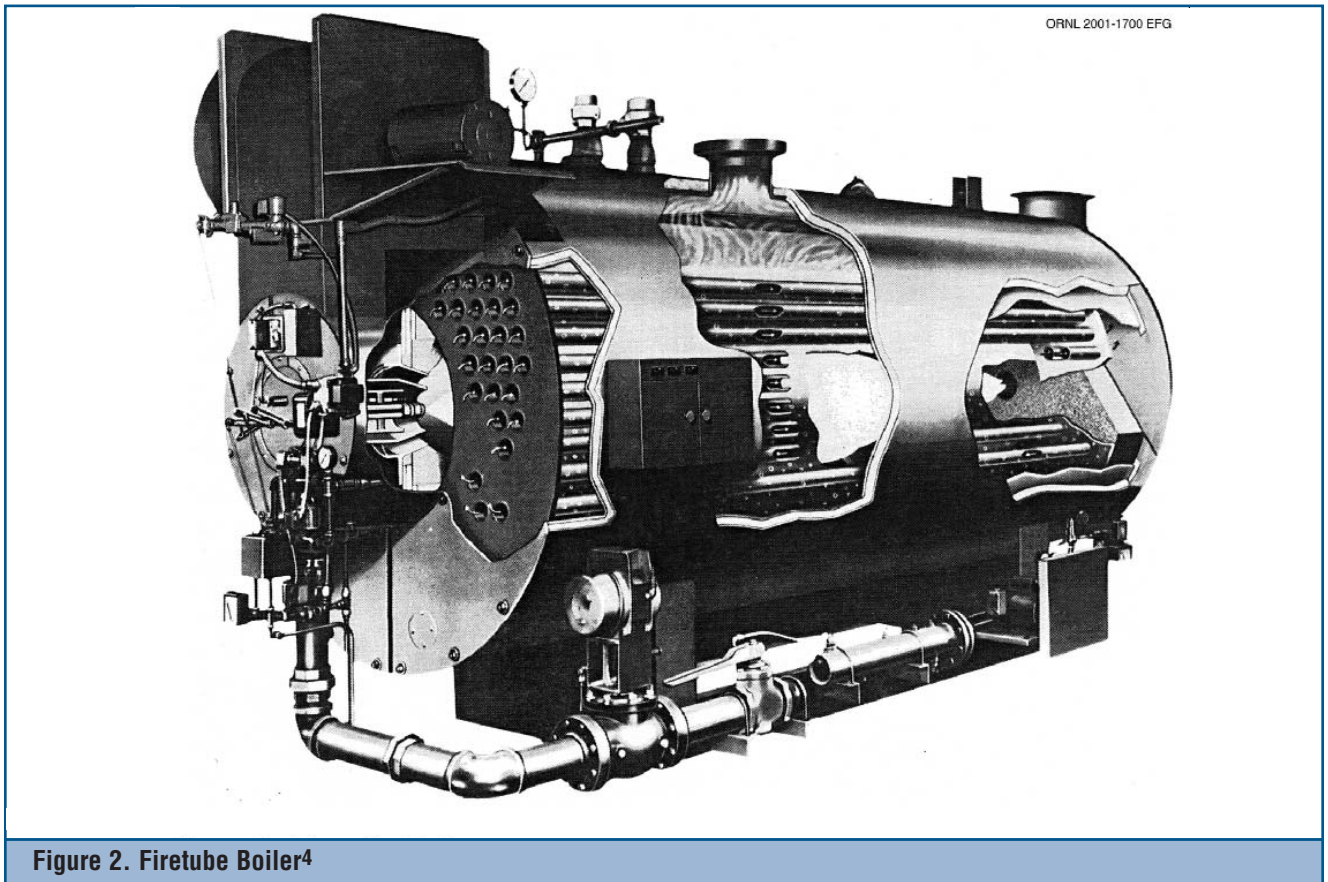

Figure 2. Firetube Boiler4
Figure 2. Firetube Boiler	5
**Firetube Boilers.** In firetube boilers, the combustion gases pass inside boiler tubes, and heat is transferred to water on the shell side. A representative firetube boiler is shown in Figure 2. Scotch marine boilers are the most common type of industrial firetube boiler. The Scotch marine boiler is an industry workhorse due to low initial cost, and advantages in efficiency and durability. Scotch marine boilers are typically cylindrical shells with horizontal tubes configured such that the exhaust gases pass through these tubes, transferring energy to boiler water on the shell side.